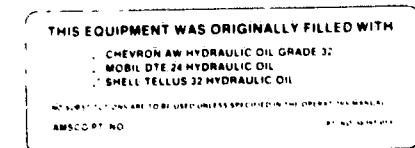

Figure 4. HYDRAULIC OIL TAG.
- Add proper oil. This table can use Chevron AW32, Mobil DTE 24 or Shell Tellus 32 hydraulic oil. Tables are shipped from factory with a tag (see Fig. 4) indicating what oil was used when constructed.